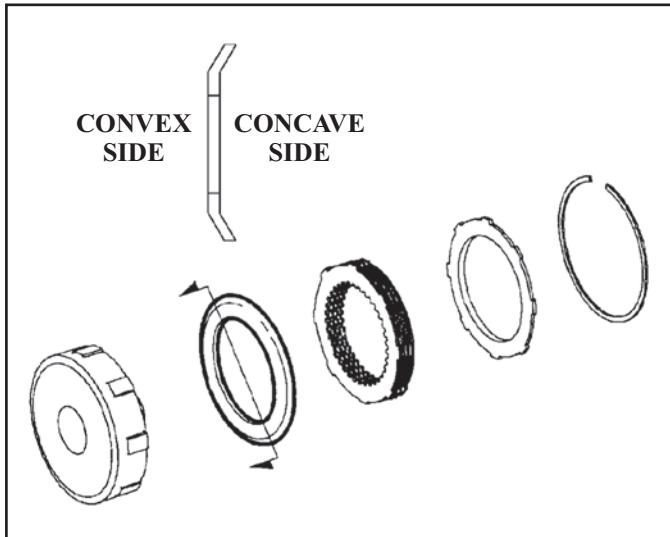

Figure 111
1. 1992 and later 1st clutch drum assemblies install a Belleville spring as shown in Figure 111.
2. Install the Belleville spring into the 1st clutch drum with the convex side towards the piston (See Figure 111).
3. Install clutch plates starting with one that is internally splined, alternating plates with the fiber side up ending with the backing plate and snap ring. There is a total of three internally splined and three externally splined fiber plates (See Figure 111).